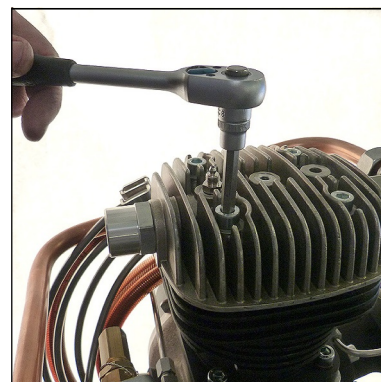

Fig. 5 - Screw valve head screws in
- Refit the valve head and tighten the valve head screws crosswise. (Fig. 5)